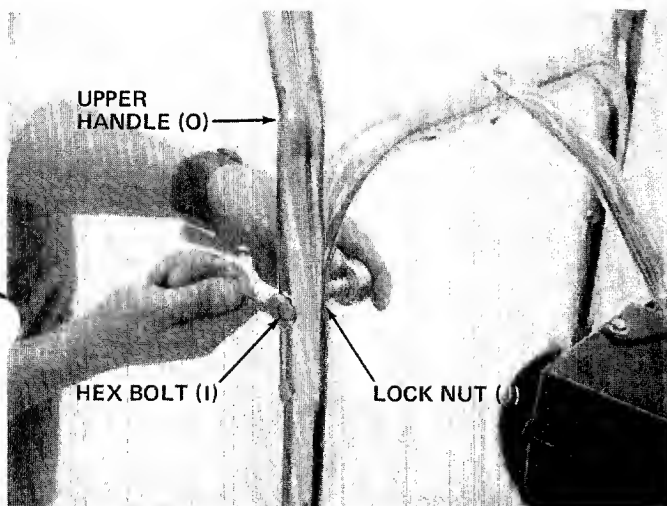

FIGURE 5.
2. Place the upper handle (O) in position over lower handle. Fasten with four hex bolts (I) and lock nuts (J) provided. See figure 5. Two 7/16" wrenches are required.